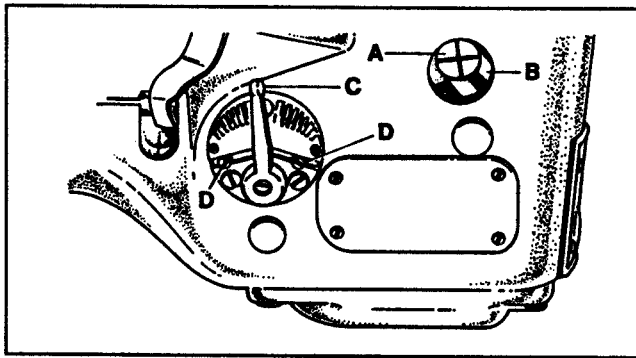

FIG. 19
This machine is designed to sew 10 to 16 stitches per inch. The normal factory setting is 12 stitches per inch. To change the stitch length remove the plug screw located directly above the cylinder side cover. Loosen screw (A, Fig. 19) in lever (B) and move up to increase the stitch length or down to decrease the stitch length. Tighten screw (A) and replace the plug screw.
The amount of differential feed is controlled by lever (C, Fig. 19). The adjusting plate is numbered from 1 to 9. When the lever is set from numbers 1 to 4 reverse differential or stretching occurs. The numbers from 4 to 5 produce equal feed stitching while numbers 5 to 9 produce a gathering stitch. The two stop screws (D) can be set to limit the movement of lever (C) or lock the lever in one position.